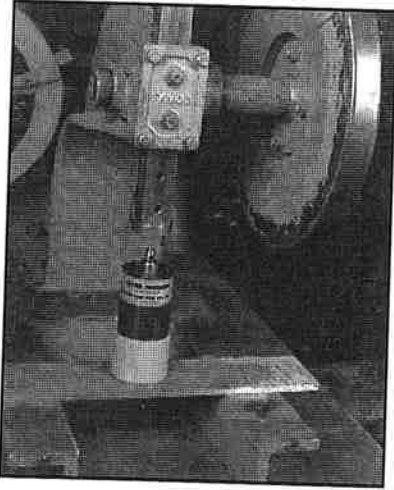

Fig. 12
- A) On the arbor press base, support the speed reducer housing such that the bearing can pass through a hole in the support as it is pressed out. A steel plate with a 1-7/8" hole in it works or use bearing press sleeve (Part No. 442) **(Figure 12)**.